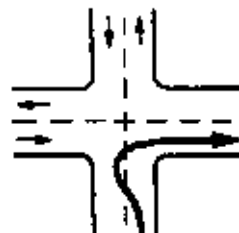

Figure 6-6
5. Why should you not turn like it shows in figure 6-6?